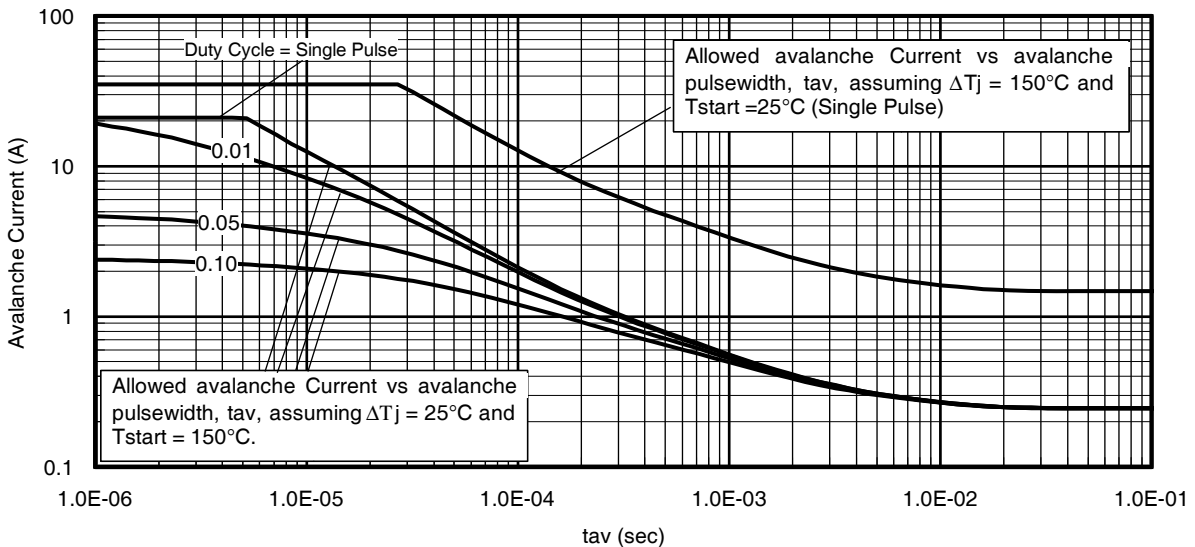

Fig 14. Typical Avalanche Current vs. Pulsewidth
Notes on Repetitive Avalanche Curves , Figures 14, 15: (For further info, see AN-1005 at www.irf.com)
- ΔT = Allowable rise in junction temperature, not to exceed T_{jmax} (assumed as 25°C in Figure 14, 15).